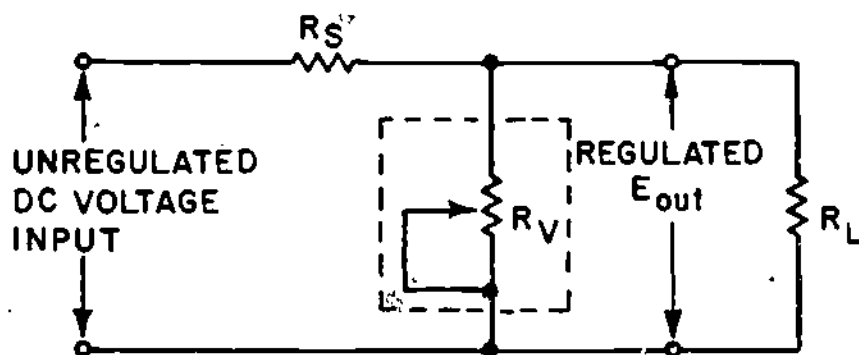

FIGURE 4
⑥ THIS IS A TEST FRAME. AFTER YOU ANSWER THE QUESTION COMPARE YOUR ANSWER WITH THE ONE GIVEN ON THE TOP OF THE FOLLOWING PAGE.
9. The diagram in Figure 4 represents a shunt type voltage regulator. Notice that variable resistor R_V is in parallel with the load resistance R_L and that fixed resistor R_S is in series with the load resistance. You already know the voltage drop across a fixed resistor remains constant unless there is a variation, increase or decrease, in the current through it.
10. Again refer to the schematic shown in Figure 4 and consider how the voltage regulator operates to compensate for changes in input voltages. You know, of course, that the input voltage may vary and that any variation must be compensated for by the regulating device. Consider an increase in input voltage. When this happens the resistance of Rv automatically decreases to maintain the correct voltage division. If you have concluded that the regulator operates in the opposite way to compensate for a decrease in input voltage you are correct.